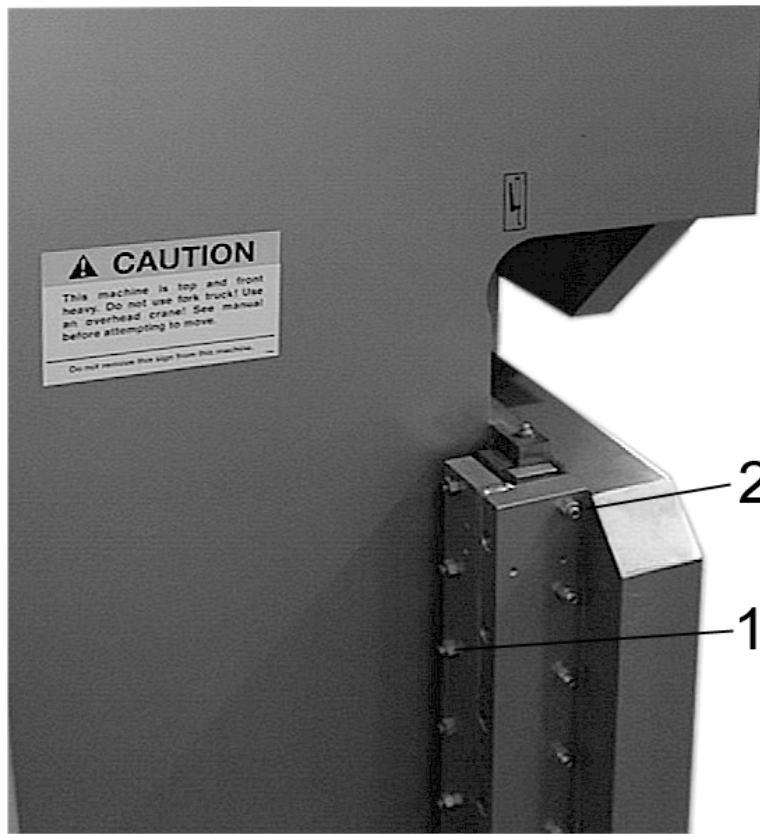

Figure 10: Gib Explanation
2. Loosen Rear Adjustment Screw Jam Nuts on both ends of the press brake. (*See Figure 10 Item 1*)
3. Loosen Slide Mounting Bracket Jam Nuts on both ends of the press brake. (*See Figure 10 Item 2*)